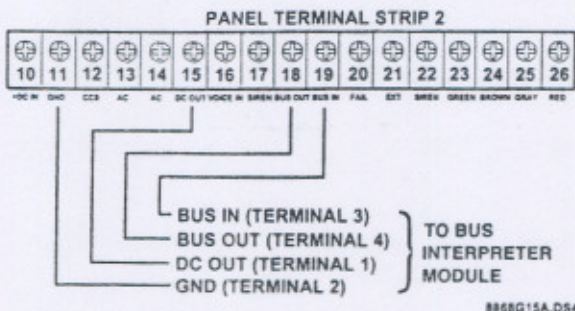

Figure 6. Wiring the Bus Interpreter Module to the Panel
- 2) Make wiring connections between the bus interpreter module and the panel as shown in Figure 6.
- 1) Verify all wiring from the bus interpreter module to the panel and the VuFone (see Figures 6 and 7).